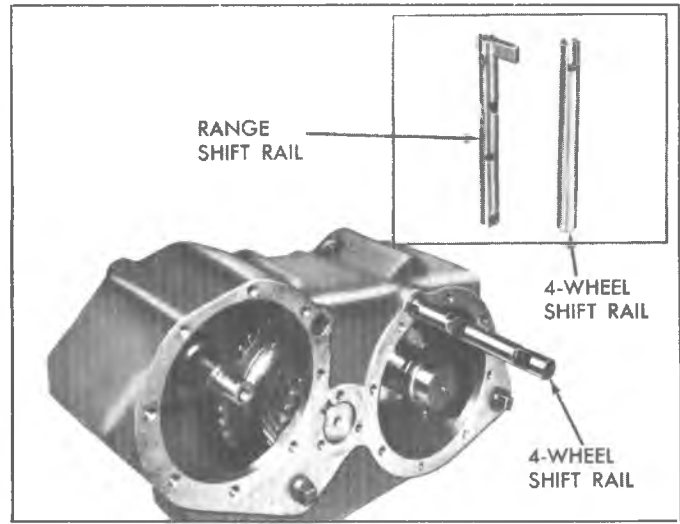

Fig. 7C--Shift Rail Removal
5. Remove shift rails (Fig. 7C), upper (range) rail first, then lower (4-wheel) rail.